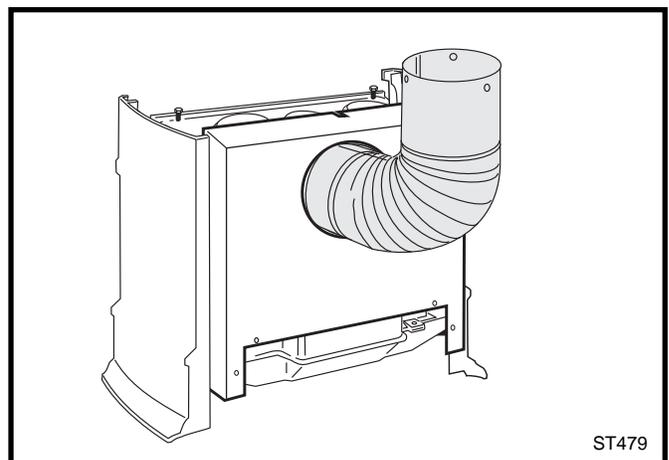

Fig. 30 Fasten outer pipe with #12 x 1/2" sheet metal screws.
5. Install the first elbow and secure using three sheet metal screws. Insert the elbow over the stove flue collar. Also, be sure to align holes on the pipe with the holes on the flue collar of the firebox. Fasten the pipe to the holes in the flue collar with the #12 x 1/2" sheet metal screws provided. (Fig. 30)